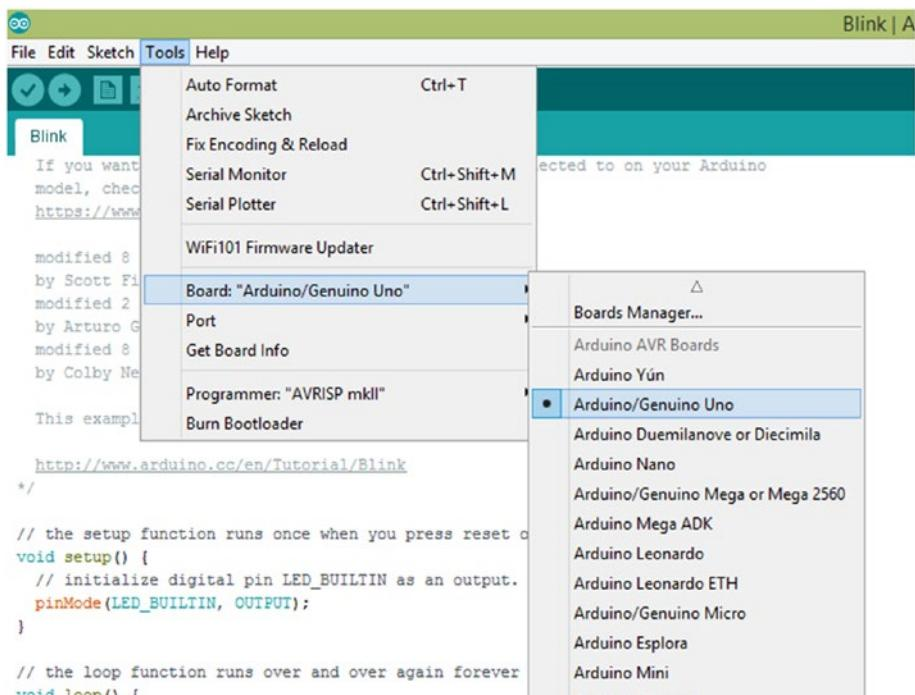

Figure 3-16. Choosing the type of microcontroller board
2. Choose the board you're going to use by selecting Tools > Board > Arduino/Genuino Uno under Arduino AVR Boards (Figure 3-16).